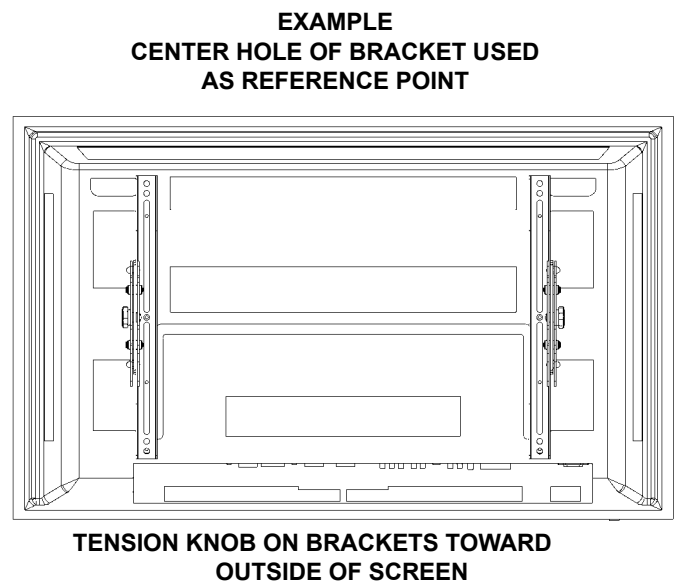

Figure 3. Align Interface Bracket Holes with Center Line On Display (Tilt Brackets Shown)
3. Using the center hole on the interface bracket as a reference point, align the bracket with the center line of the display (see Figure 3).